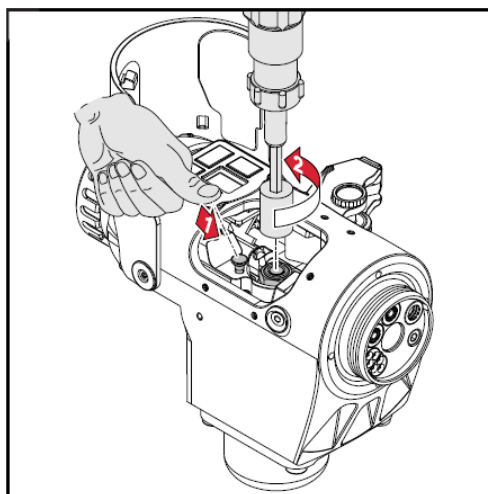

Fig. 5.4.8 (a) Replacing the drive roller
- 2 According to Fig. 5.4.8 (a), insert the torque drive to the drive roller. Then remove the roller. At this time, push the drive roller side button and fix the roller rotation.